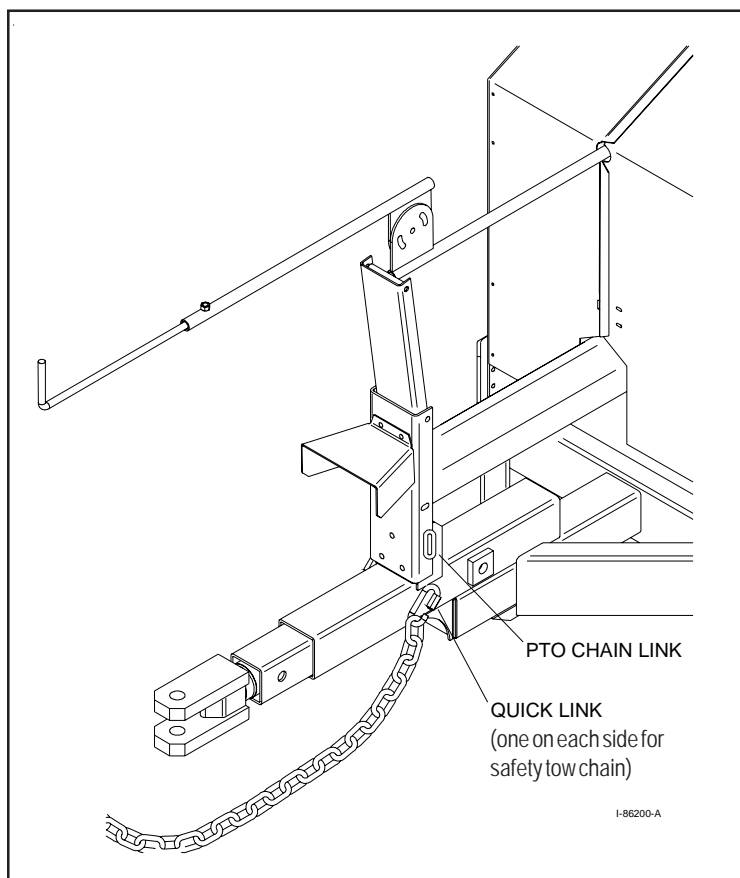

Figure 2B - Attaching the Safety Chains
3. Refer to Figure 2B. Fasten the PTO safety chain to the link on the row mulcher to prevent rotation of the safety shield during operation.
1. Refer to Figure 2B for an illustration of the hook-up of the safety chains (one on each side).